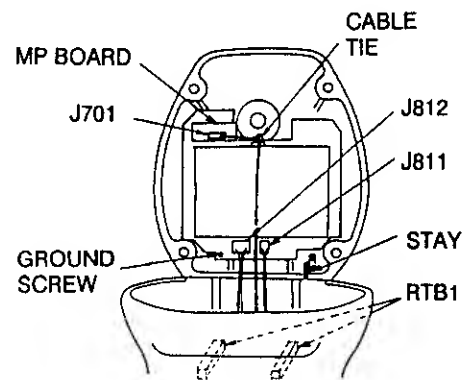

Figure 6-7 Parts Inside the Scanner Unit
4. Open the scanner housing cover and fix the stay as shown in Figure 6-7.
5. One end of the cable with 15-, 9- and 7-way plugs has already been connected to terminal board RTB1 inside the scanner housing. Mate the 15- and 9-way plugs with jacks J812 and J811 on the transceiver module, respectively. Connect the 7-way plug to jack J701 on the MP Board. Secure the cable between RTB1 and J701 with the cable tie as shown in Figure 6-7.
6. The black wire of the cable is the ground wire. Connect it to the chassis of the transceiver module with the ground screw shown in Figure 6-7.